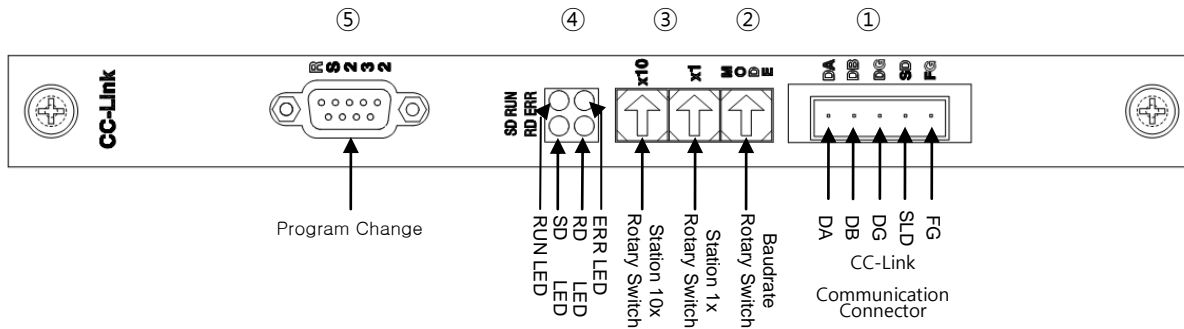

Fig. 3.1 Front View of CC-Link Option Card
The front view of CC-Link Option Board is shown in Fig. 3.1..
CC-Link Option Board, equipped with a total of 4 LEDs, is able to know the CC-Link Adapter status from the outside. Fig. 3.1 ④ shows how it looks like with the following functions.
Use the Station 10x Rotary Switch and Station 1x Rotary Switch in Fig. 3.1 ③ and change into Station Number set in Master to have communication with CC-Link Master. Rotary Switch makes use of a decimal number so you can set a tenth place with 10x Rotary Switch and the first place with 1x Rotary Switch.
Communication speed with CC-Link Master is set by using Baud rate Rotary Switch in Fig.3.1 ②. Rotary Switch uses a decimal number and communication speed for each number is shown in Table 3.3.
This is a STL(Z) 950 5-pin OPEN Connector. It looks like Fig. 3.1 ④ and its cable for use should be CC-Link Ver.1.10 defined in CC-Lin. Its colors are defined as DA(Blue), DB(White), and DG(Yellow), while SLD and FG have no definition of color. SLD means cable Shield and FG means Frame Ground. For further details, refer to 4.2 "How to connect CC\_LINK network cable".